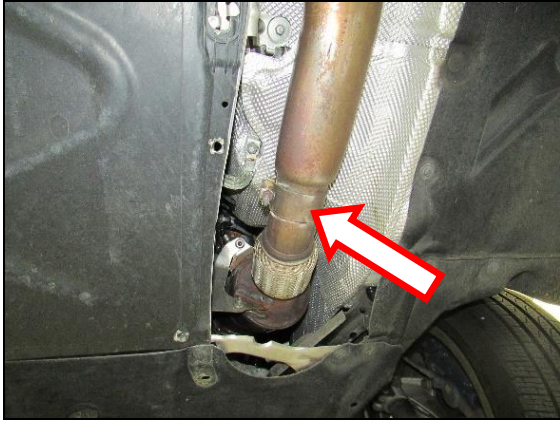

Figure 1
3. Loosen the (x1) 13mm head nut at the OE band clamp (**Figure 1**).